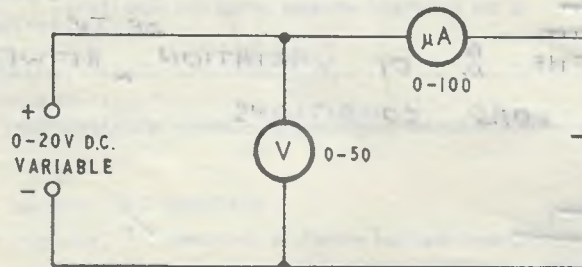

FIG. 2.
**STEP 4.** Connect the circuit as shown in Fig. 2.